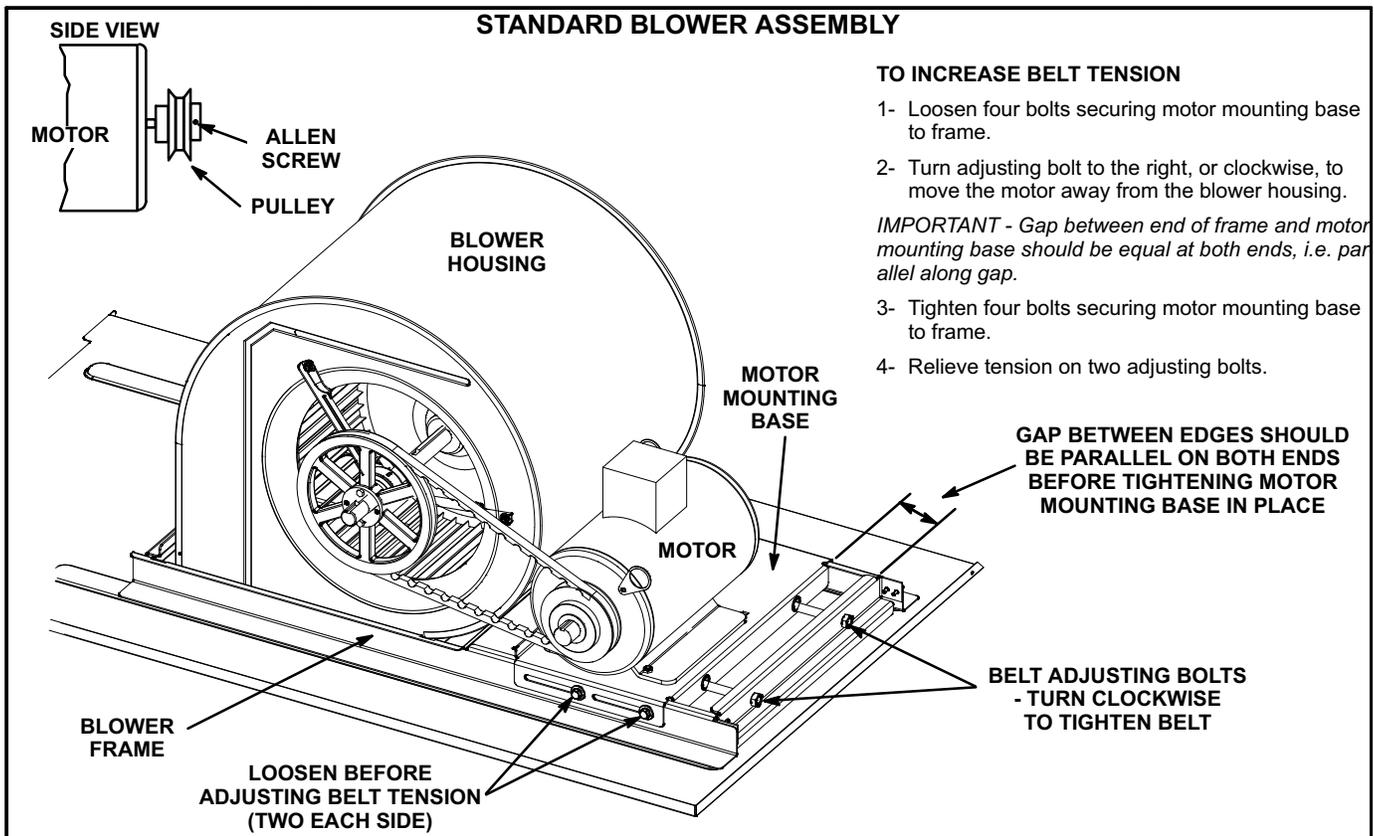

FIGURE 11
The blower assembly is secured to a sliding frame which allows the blower motor to be pulled out of the unit. See figure 11.
- 5- The blower RPM can be adjusted at the motor pulley. Loosen Allen screw and turn adjustable pulley clockwise to increase CFM. Turn counterclockwise to decrease CFM. See figure 11. Do not exceed minimum and maximum number of pulley turns as shown in table 2.
- 1- Loosen four bolts securing motor base to mounting frame. See figure 11.